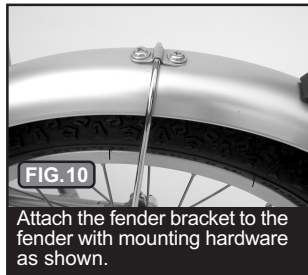

FIG. 10
**B)** Fender Bracket Attachment - First, attach the fender bracket to the fender. Place the fender bracket in the center of the two holes in the fender and align the mounting hardware with them as shown in Fig. 10. Insert the screws through the holes from the outside of the fender. Place the threaded backing plate on the inside of the fender and tighten the screws using a screwdriver.